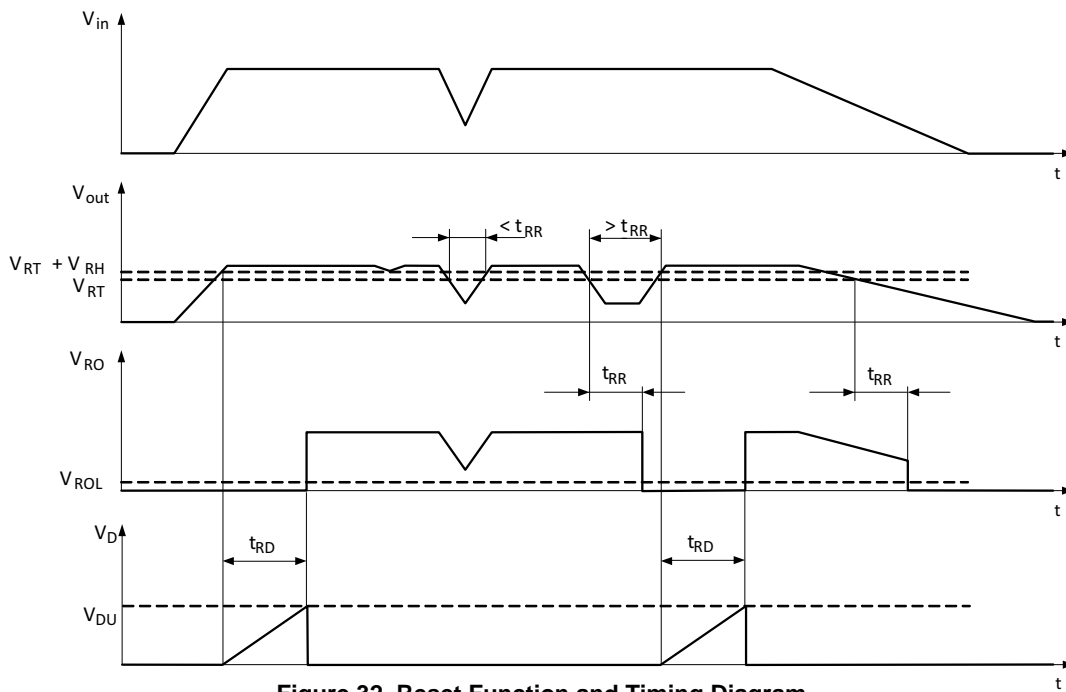

Figure 32. Reset Function and Timing Diagram
A reset signal is provided on the Reset Output (RO) pin to provide feedback to the microprocessor of an out of regulation condition. The timing diagram of reset function is shown in Figure 32. This is in the form of a logic signal on RO. Output voltage conditions below the Reset threshold cause RO to go low. RO is pulled up to V_{out} by an external resistor, typically 5.0 kΩ in value. Output voltage regulation must be maintained for the delay time before the reset output signals a valid condition. The delay for the reset output is defined as the amount of time it takes the timing capacitor on the delay pin to charge from a residual voltage of 0 V to the upper timing threshold voltage V_{DU} of 1.3 V. The charging current for this is I_D of 4 µA and D pin voltage in steady state is typically 0 V. By using typical IC parameters with a 47 nF capacitor on the D Pin, the following time delay is derived: